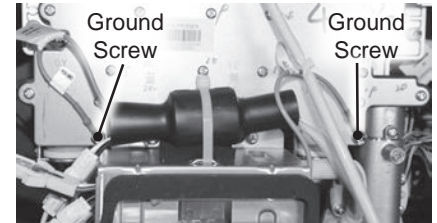

Figure 109 - Removing green ground wires
- 6 Locate both green ground wires attached to gas manifold cover. Remove the two screws securing the green ground wires and place them aside in a safe place for reinstallation. See Figure 109.